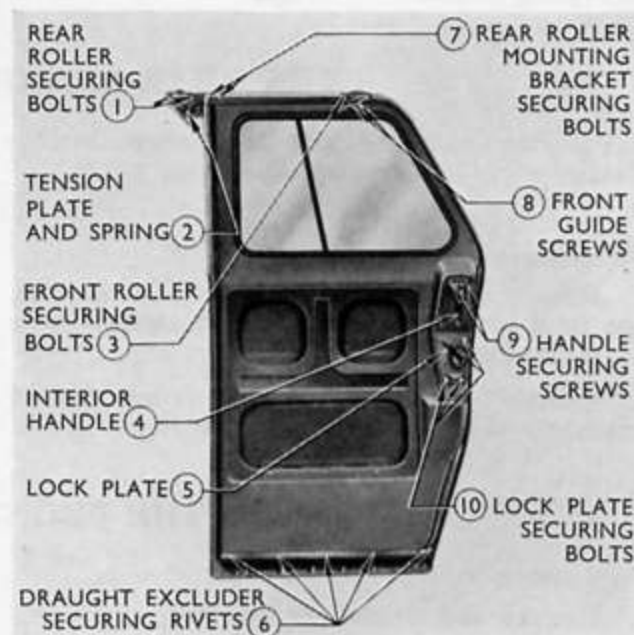

Fig. 13
3. Close the door and from the inside of the vehicle slacken the two crosshead screws securing the door front upper guide plate (see Fig. 13).
4. Remove the two screws securing the rear guide tension plate and remove the plate and tension spring (see Fig. 13).
1. Remove the two crosshead screws and spacer washers securing the door front upper guide plate and remove the plate (see Fig. 13).
2. Remove two nuts, bolts, spring and spacer washers securing the front upper roller and remove the roller (see Fig. 13).
3. Remove four bolts, spring and flat washers securing the rear upper roller mounting bracket and cover plate and remove the bracket and plate as an assembly (see Fig. 13).
4. Remove one crosshead screw and spring washer securing the cover plate to the rear upper roller mounting bracket and remove the plate (see Fig. 13).
5. Remove two bolts, spring and flat washers securing the rear upper roller to the mounting bracket and remove the roller (see Fig. 13).